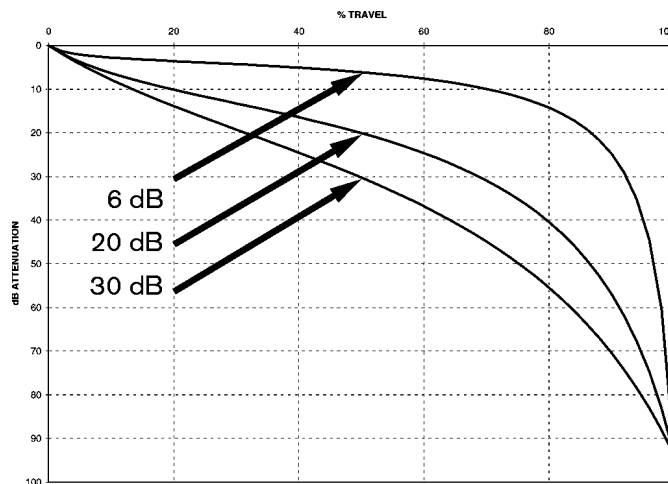
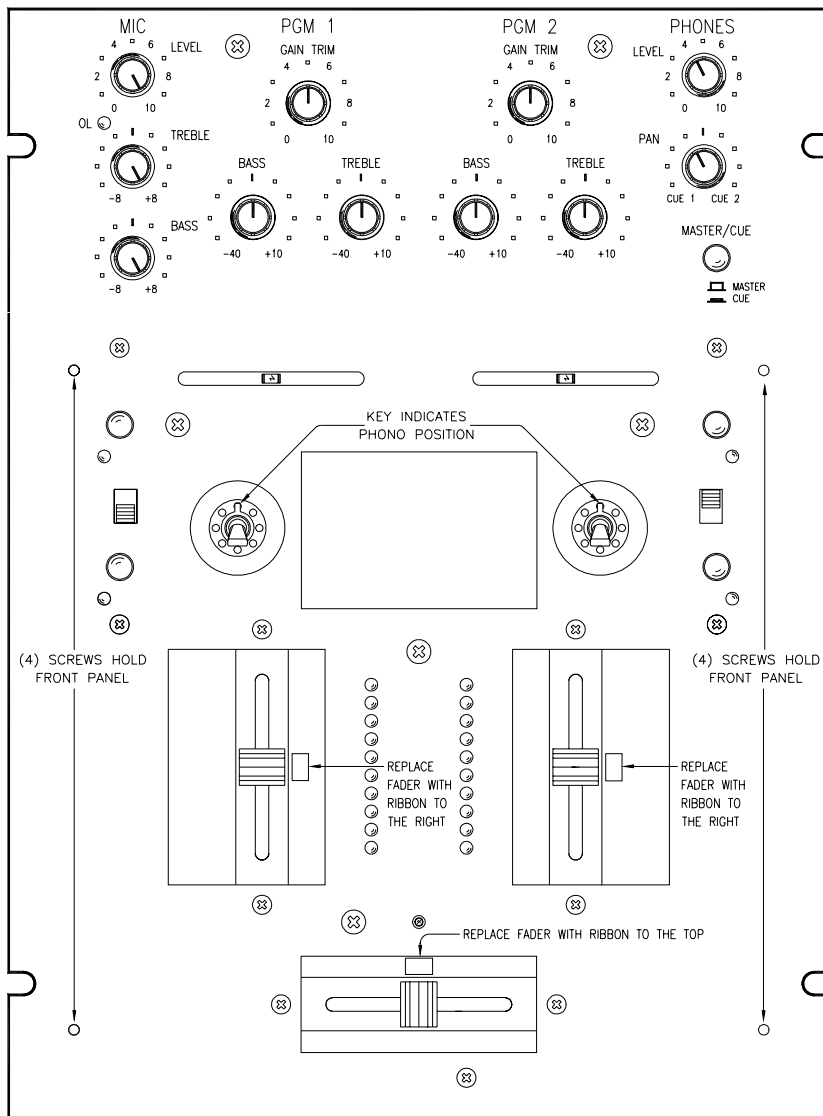

Figure 2. Contour Switch
Figure 4. Phono/Line switch rotation or replacement
- ③ **BALANCE** controls are used for **LEFT/RIGHT** balance of **PGM 1** and **PGM 2** or for **LEFT/RIGHT** Pan effect. Push the control to the left and sound moves to the left channel. Push the control to the right and sound moves to the right channel.
- ④ **EFFECTS** engage switches are provided for **PGM 1** and **PGM 2**. *These two switches determine the location of a single, assignable, stereo EFFECTS LOOP.*
⑤ **CONTOUR** switches provide three tapers for **PGM 1** and **PGM 2 Program Faders**. The numbers **6**, **20** and **30** indicate the mid-point attenuation. Settings can provide smooth fade or cut and scratch effects. Note from the graph shown in Figure 2, that the **6 dB** setting provides a *quick on* contour for cut and scratch (0% travel is with Program Fader up). When used with the **HAMSTER** reversal switch, the **Program Fader** operates very similar to the **Crossfader**, allowing the same hand motion for cut and scratch operation. The **20 dB** setting provides a normal audio taper while the **30 dB** setting provides a more rapid fade out.
⑥ **HAMSTER** switches are provided for **PGM 1** and **PGM 2 Program Faders**. These switches reverse the operation of the adjacent **Program Fader**. When engaged, signal is *off* with the **Program Fader up**, and *maximum* with the **Program Fader down**.
⑦ **PHONO / LINE** source select switches are provided for **PGM 1** and **PGM 2**. These are “clickless” switches suitable for “transform scratch” applications. The switches are field replaceable and may be rotated in 45° increments. See Figure 4 on page Manual-6 for rotation and replacement instructions.
⑧ **Program Fader** controls for **PGM 1** and **PGM 2** are ultra low noise, long-life, monorail devices. An *ActiveFader™* design completely isolates the control element from the audio, providing the highest reliability and performance. See page Manual-6 for cleaning and replacement instructions.
⑨ **PGM 1** and **PGM 2 Meters** provide true L+R Dual Mono indication of **Post-Program Fader** signal levels. Ten segment resolution is provided with a one second peak hold indication. With the Program Fader set to maximum, the input **GAIN TRIM** should be set to indicate an average level of about +4.
⑩ **Crossfader** control is implemented using Ranes’ proprietary *ActiveFader™* design. As with the **Program Faders**, all audio is isolated from the control element, greatly extending the life and performance of the control. See page Manual-6 for cleaning and replacement instructions